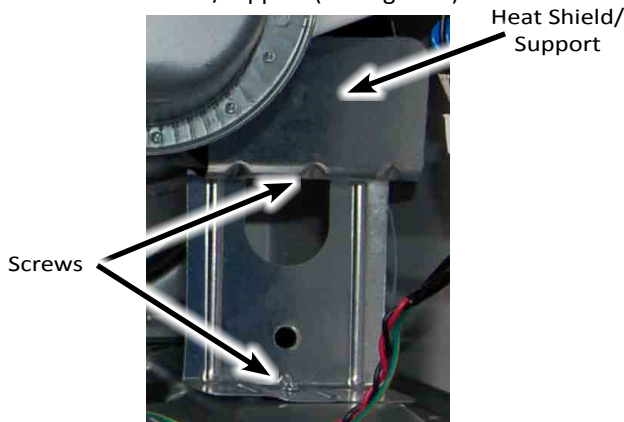

Figure 2
4. Remove the screws from the heater shield/support and remove heat shield/support (see Figure 2).